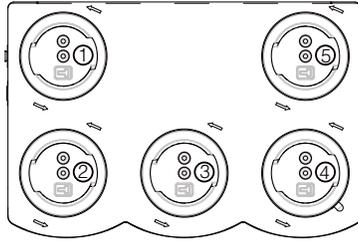

Figure 7
Align the 2 connection pipe of the filter cartridge to the connection holes of the filter adapter, and rotate counter-clockwise to the end. (Figure 7).
1. Rotate the filter cartridge clockwise until it stops, and the filter cartridge automatically comes off the filter adapter (See Figure 7 in reverse direction).
2. Select the corresponding replacement filter cartridge, align the 2 connection pipes with the connections holes in the filter adapter, and rotate counter-clockwise until it stops (see Figure 7).